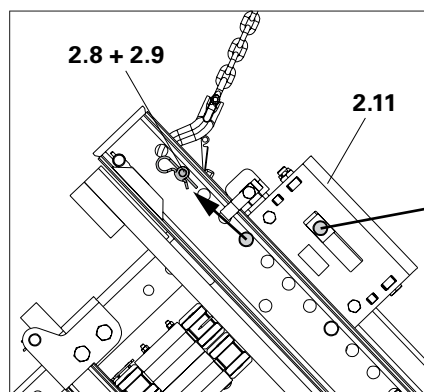

Fig. B1.18a
1. Remove 2x fitting pins \varnothing 26 (2.8) and cotter pins 5/1 (2.9) from the marked positions on the Adjusting Unit SCS (2.11). (Fig. B1.18a)
2. Insert fitting pins \varnothing 26 (2.8) into the holes on the Crossbeam and secure with cotter pins 5/1 (2.9). (Fig. B1.18a + B1.18b)